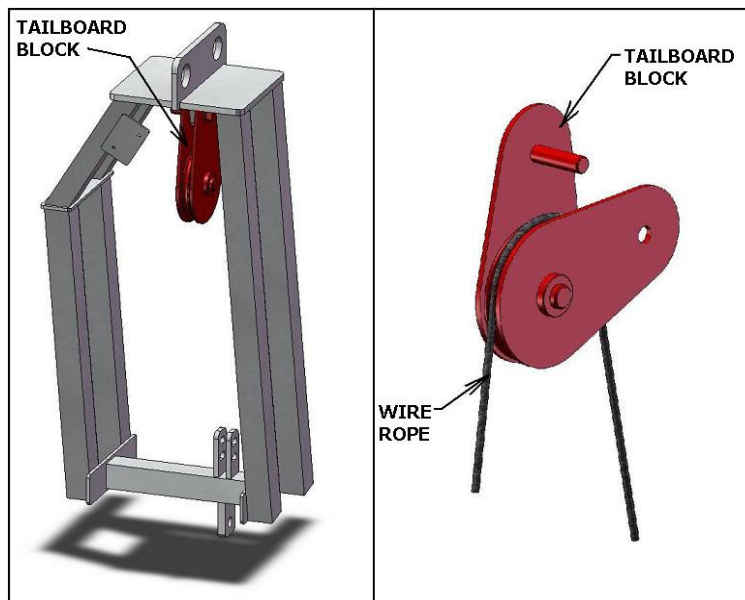

Figure 4.
1. The wire rope shall be reeved through the tailboard block on the material hoist frame. If an overhaul ball or other rigging hardware is located on the end of the rope, the tailboard block can be unbolted and opened allowing the wire rope to breach load. Refer to figure 4.